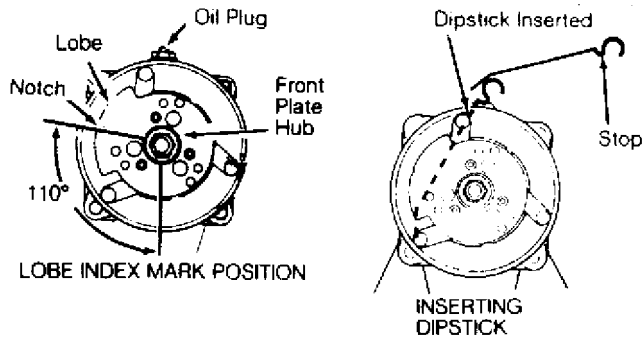

Fig. 1: Sanden 5-Cylinder Oil Level Checking
1) Discharge system. Remove compressor belt and loosen mounting bolts. Rotate compressor in brackets until filler plug is at top. Clean area around filler plug and remove plug slowly. Rotate front hub plate so notch in lobe is 110 degrees from the bottom. This rotates ball end of top piston to align with oil fill port and allows clearance for dipstick. See Fig. 1.